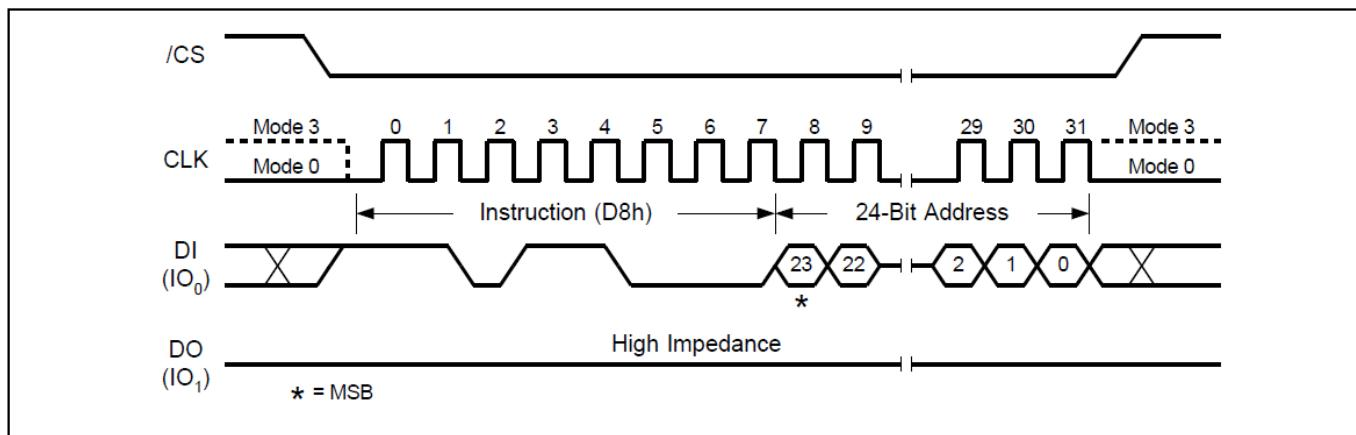

Figure 17. 64KB Block Erase Sequence Diagram
The 64KB Block Erase command sequence: CS# goes low → sending 32KB Block Erase command → 3-byte address on DI → CS# goes high. The command sequence is shown in Figure 17. CS# must be driven high after the eighth bit of the last address byte has been latched in; otherwise the 64KB Block Erase (BE) command is not executed. As soon as CS# is driven high, the self-timed Block Erase cycle (whose duration is Tse) is initiated. While the Block Erase cycle is in progress, the Status Register may be read to check the value of the Write in Progress (BUSY) bit. The Write in Progress (BUSY) bit is 1 during the self-timed Block Erase cycle, and is 0 when it is completed. At some unspecified time before the cycle is completed, the Write Enable Latch (WEL) bit is reset. A 64KB Block Erase (BE) command applied to a block which is protected by the Block Protect (CMP, SEC, TB, BP2, BP1, and BP0) bits is not executed.